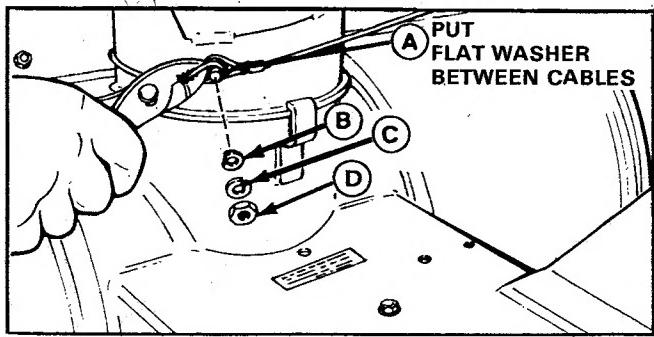
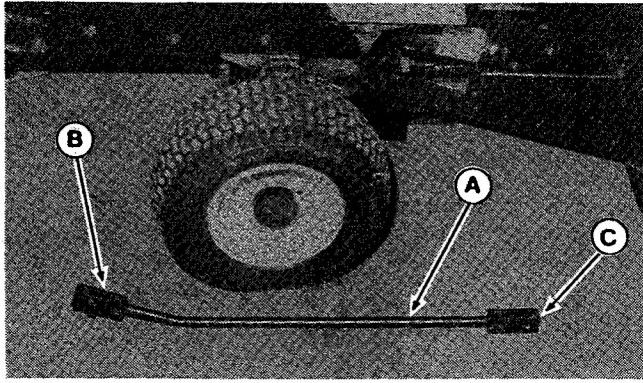

Figure 3.
**Figure 6**
- b. Wrap the cable around the chute and attach with hardware shown in figure 3. Also, see figure 6 for an illustration of how cable is wrapped around spool.
6. Attach the spout rotator handle (A, figure 6) with the pin and cotter pin (B).